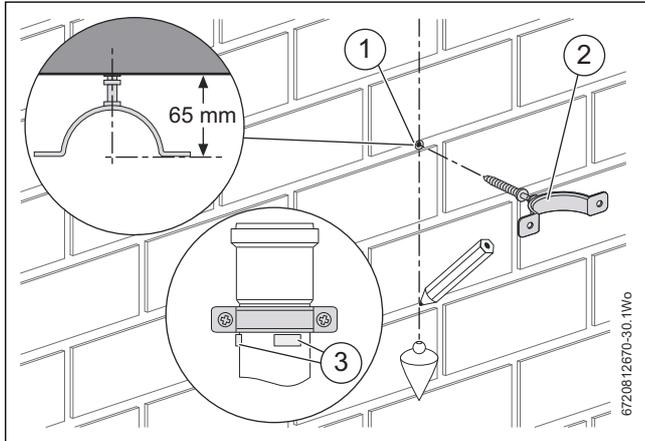

Fig. 32 Support clamp fitting
- ▶ Screw in the support clamp into the wall plug to the distance shown in figure 32.
- ▶ Screw in the support clamp into the balcony/overhang plug to the distance shown in figure 32.